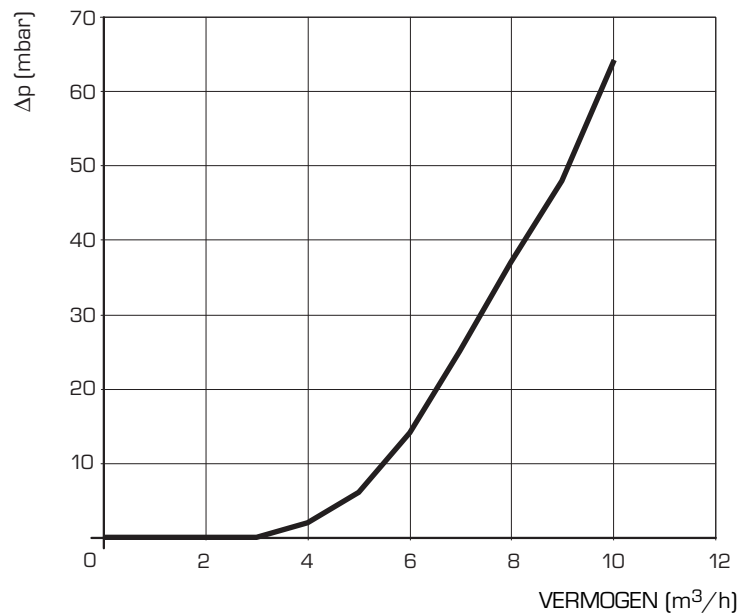

Fig. 3
1.5 LAADVERLIES VAN DE HYDRAULISCHE COMPENSATOR OP AANVRAAG GELEVERD IN DE SET COD. 8101550 (fig. 3)